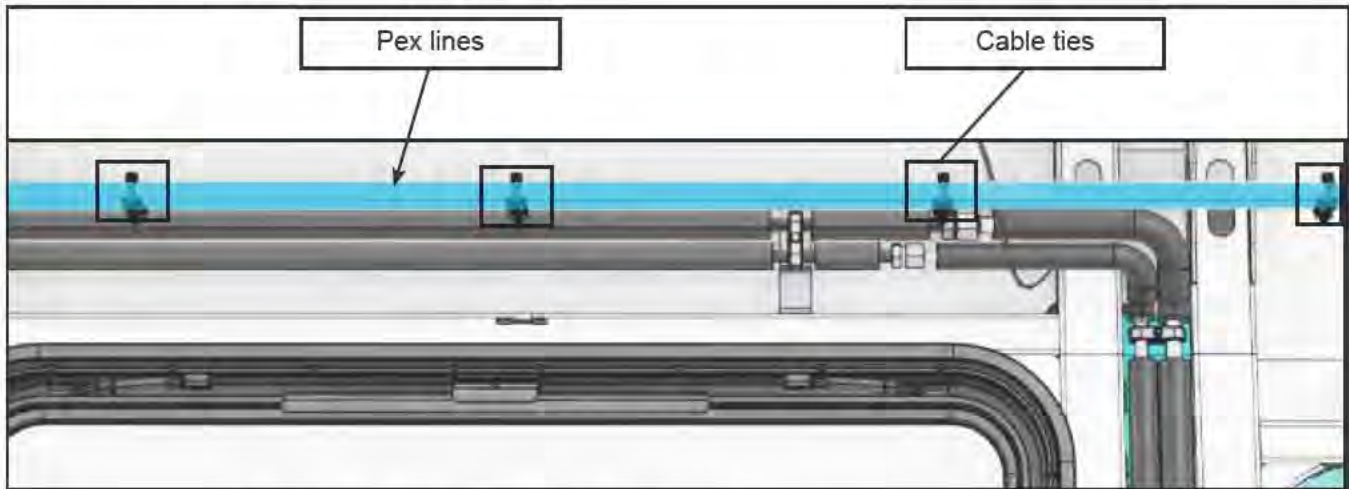

Figure 10 - Pex Lines - Cable Ties to Remove (Components Omitted for Clarity)
- 1.17. To access the hydraulic pipe N77549-01 connection, cut cable ties securing the Pex Pipes to their support bracket to move them away (Figure 10).
- 1.31. Reposition the Pex lines and secure with the cable ties G5007996 (ref. Figure 10).